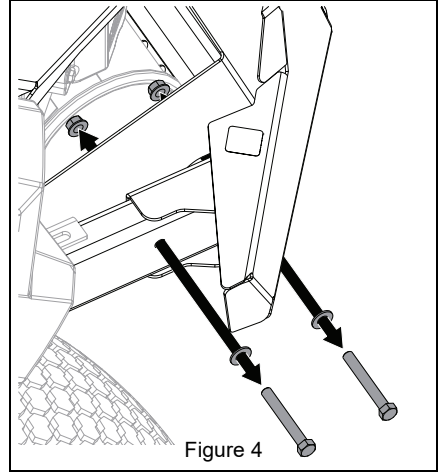

Figure 4
1. Remove and discard two hex bolts, two washers, and two locking flange nuts from each corner of bumper. See Figure 4.